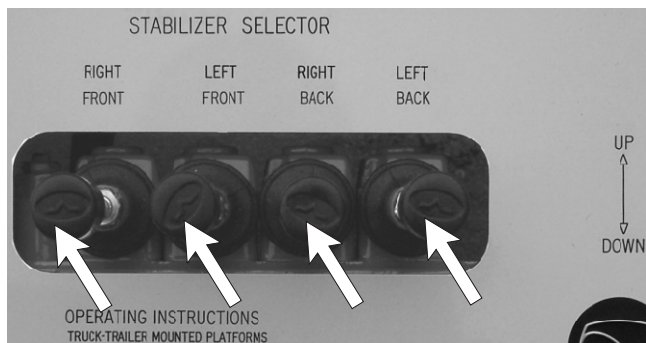

Figure 9.10 - Stabiliser Valve Controls
2. Lower the stabilisers, selecting the order in which they are to be lowered using the selector valve mounted on the subframe/column (see Figure 9.10).